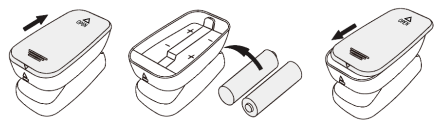

Figure 3. Batteries assembly
Step 1. Refer to Figure 3. and insert the two AAA size batteries properly in the right direction.